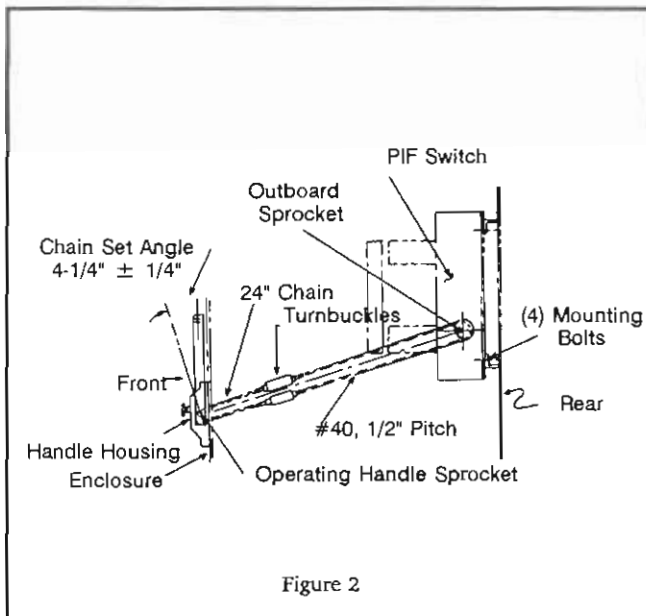
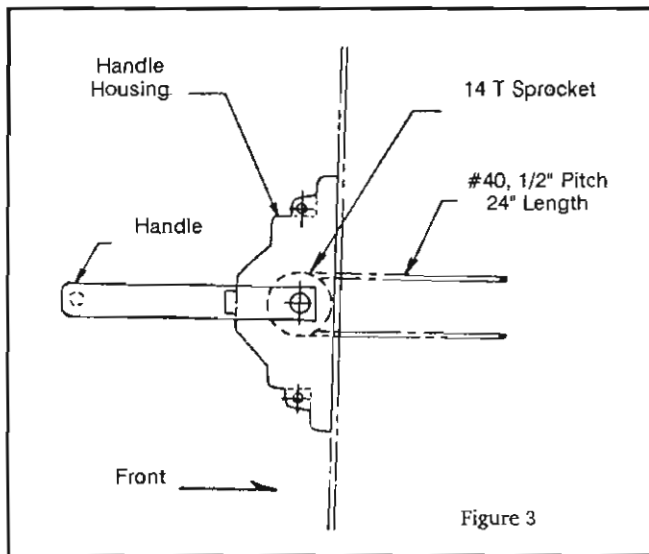

Figure 2
Figure 3
2. Position the outboard sprocket of switch as required and align it with the operating-handle sprocket position. Refer to Figure 2.
3. For connecting the operating-handle to switch sprocket determine total length of chain required then cut (1) length 24" for use at the operating handle on the sprocket. Pass the 24" length thru the handle housing and around the the handle sprocket centered on the length of chain on the sprocket. Place the handle in the latched close position - handle up. At this point switch should be closed.
4. For the operating-handle sprocket location, a shorter length of chain is furnished. (A 24-inch length of chain is suggested for switches with main contacts at top. **REMOVE CHAIN LINKS ACCORDINGLY.**) Pass the chain around the handle sprocket such that, with the handle in mid-position, the free ends of the chain are about the same length when extended. Refer to Figure 3. Place the handle in the latched-closed position. If the Handle is "Up" - Switch must be closed.
6. Move operating handle approximately $4\frac{1}{4} \pm \frac{1}{4}$ from the vertical handle assembly mounting and hold it in this position. Refer to Figure 2. Connect chains and turn buckles until chain tension is even and fairly tight. Move handle back "up" into its locked-closed position. Do not throw switch "open" at this time.